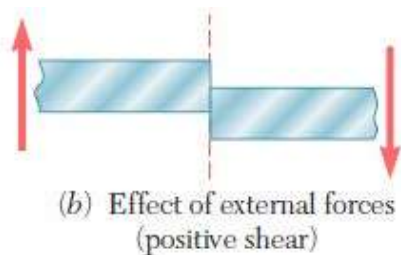

Figure 2.6
- The shear at any given point of a beam is positive when the external forces (loads and reactions) acting on the beam tend to shear off the beam at that point as indicated in Figure 2.6.